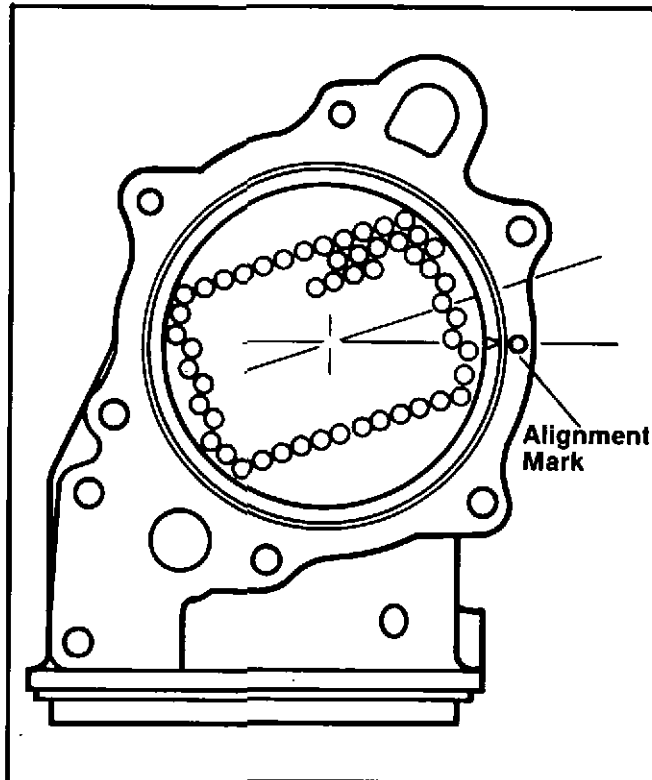

Fig. 7-23. Align the Index Marks On The Element And Housing.
2. Align the index mark on the element with the index mark on the housing, Fig. 7-23.